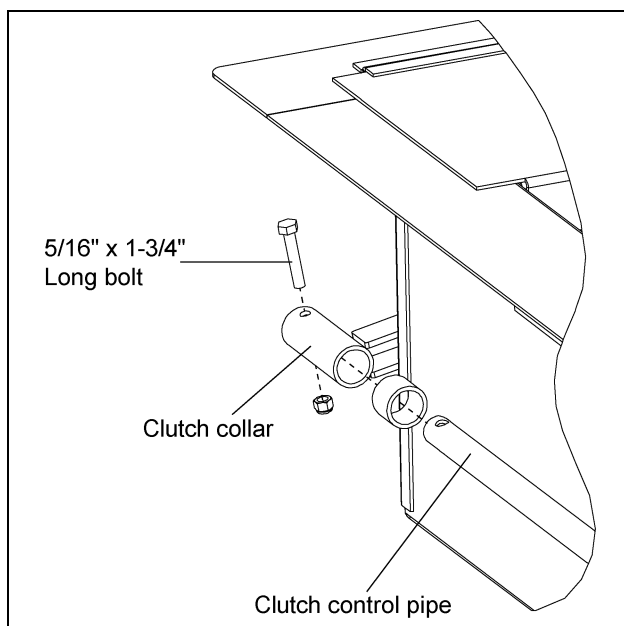

Figure 4U
2. Bolt the clutch control pipe to the collar on the center well using a 5/16" x 1-3/4" long bolt and lock nut. (See Figure 4U.)